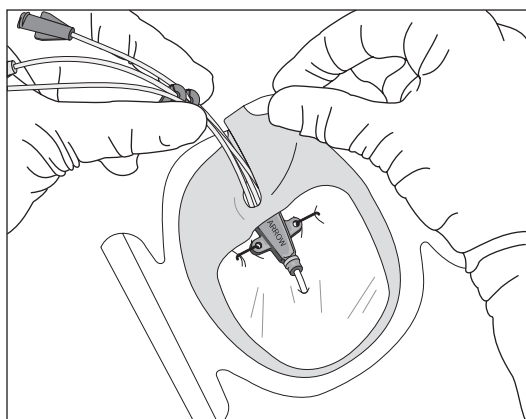

Figure 7
- Overlap softcloth tabs under catheter to form a tight seal around catheter hub and lumens (refer to Figure 7).